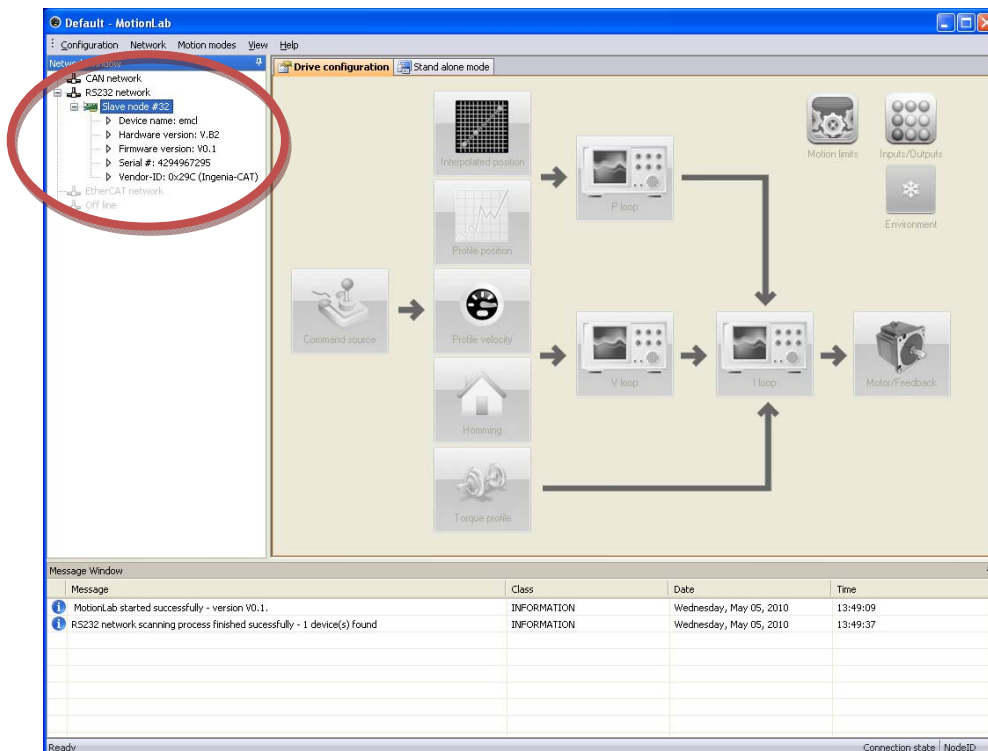

Figure 3: Node 32 detected
3. **Node detected:** At the end of the scan all detected nodes will appear in the network window with the basic information of each node (See Figure 3). It will be also reported in the message window (at the bottom of the screen).